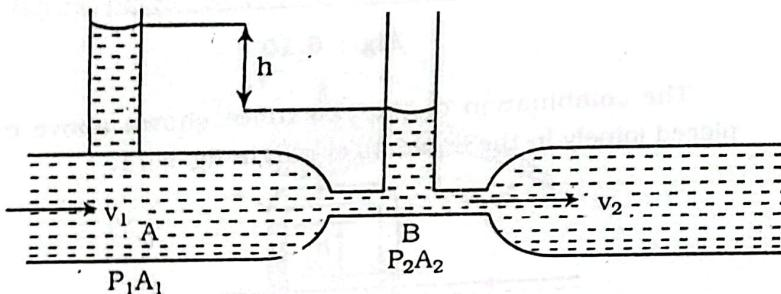

Fig : 6.8
(3) The venturi tube illustrated in fig. 6.8 consists of a constriction or throat inserted in a pipeline and having properly designed tapes at inlet and outlet to avoid turbulence. Bernoulli's equation, applied to the wide and to the constricted portions of the pipe, becomes